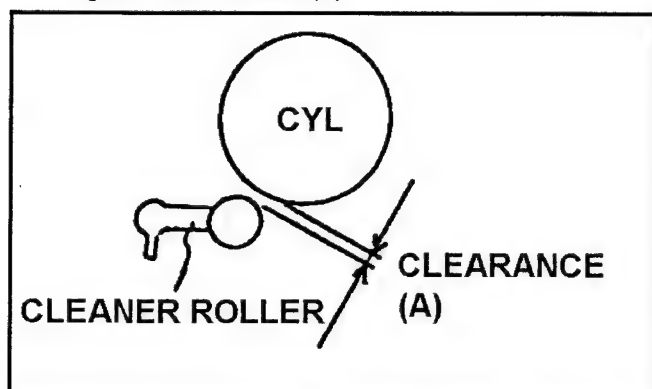

Fig. 6-15-3 Cleaner Roller Position Adjustment
1. Observe the clearance (A) between Cleaner Roller and cylinder Unit as shown in Figure 6-15-3. And make sure that it is within 1.0 to 1.2mm.
2. If not, loosen the 2 screws (B) and adjust the position of Cleaner Base Plate by moving arrow direction (A ⇄ A) using the Eccentric driver so that the clearance (A) is within specification. And tighten the 2 screws (B).